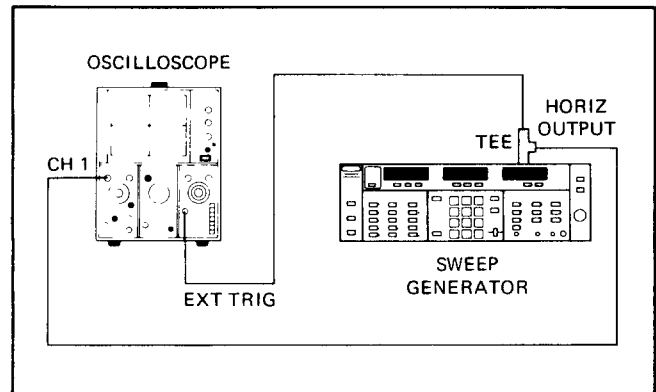

Figure 4-2. Test Equipment Setup for Sweep Time Test
- a. Connect the test equipment as shown in Figure 4-2, and turn the equipment on.